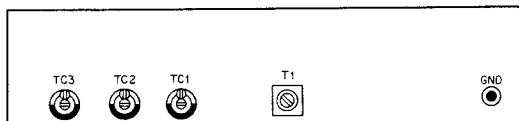
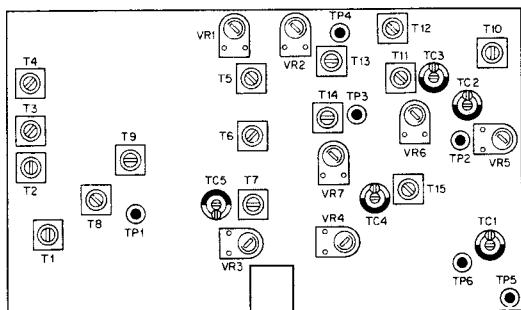
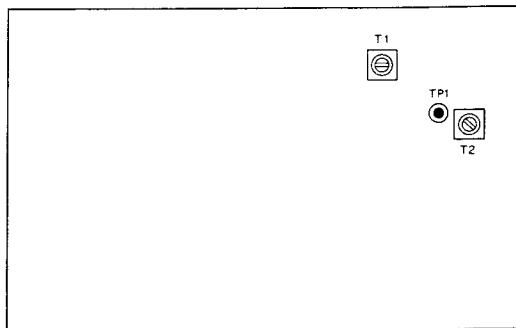

Fig. 21 CAR unit
Fig. 24 IF unit
Fig. 25 RF unit
- 1) Connect RF VTVM to TP5 in IF unit (X48-1150-00) and adjust oscillation coil T1 in CAR-1 unit (X50-1310-00) until the meter reads 50mV (refer to Fig. 21). (refer to Fig. 24 IF unit)
- 2) Adjust T1 to T7 in IF unit (X48-1150-00) and T2 in RF unit (X44-1150-00) until S meter reads maximum value (refer to Fig. 24 and Fig. 25).
- 2) Turn the RF GAIN knob fully counterclockwise and adjust VR3 and TC5 in IF unit (X48-1150-00) alternately until the output becomes minimum (refer to **Fig. 24**).
- 1) After receiving marker signal and turning ON NB switch, adjust T8 and T9 until the terminal voltage at TP1 on IF unit (X48-1150-00) becomes minimum (refer to **Fig. 24**).
- 1) After adjusting each section until sensitivity becomes maximum, adjust VR1 in IF unit (X48-1150-00) under no signal condition, thus making zero point adjustment of S meter (refer to **Fig. 24**).